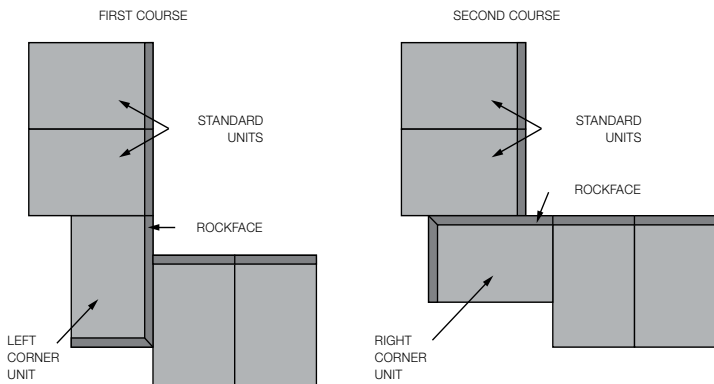

Figure 41. Inside corner typical installation
**Installation** - The installation starts by placing units on one course leading to the corner. A corner unit is placed so that the small face will be hidden behind the final construction. On some corner units, it may be necessary to smooth out the split face within  $\frac{2}{3}$  of the end. Standard units are placed as shown in Figure 41. The back of these units will extend past the end of the corner unit. A corner unit from the other direction is placed on the next course to interlock the corner. More standard units are placed to complete the course. The process is repeated as required.